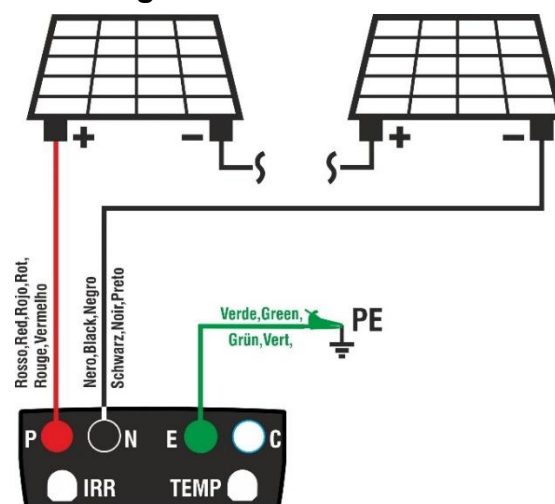

Fig. 7: Instrument connection for insulation measurement in DUAL mode
- Connect the instrument to the PV string to be tested as shown in Fig. 7. **The test can be carried out also on more strings connected in parallel to each other. Please remember that it is also necessary to separate possible overvoltage protections connected to the cables of the string(s) and that it is recommended to measure upstream of possible blocking diodes.**